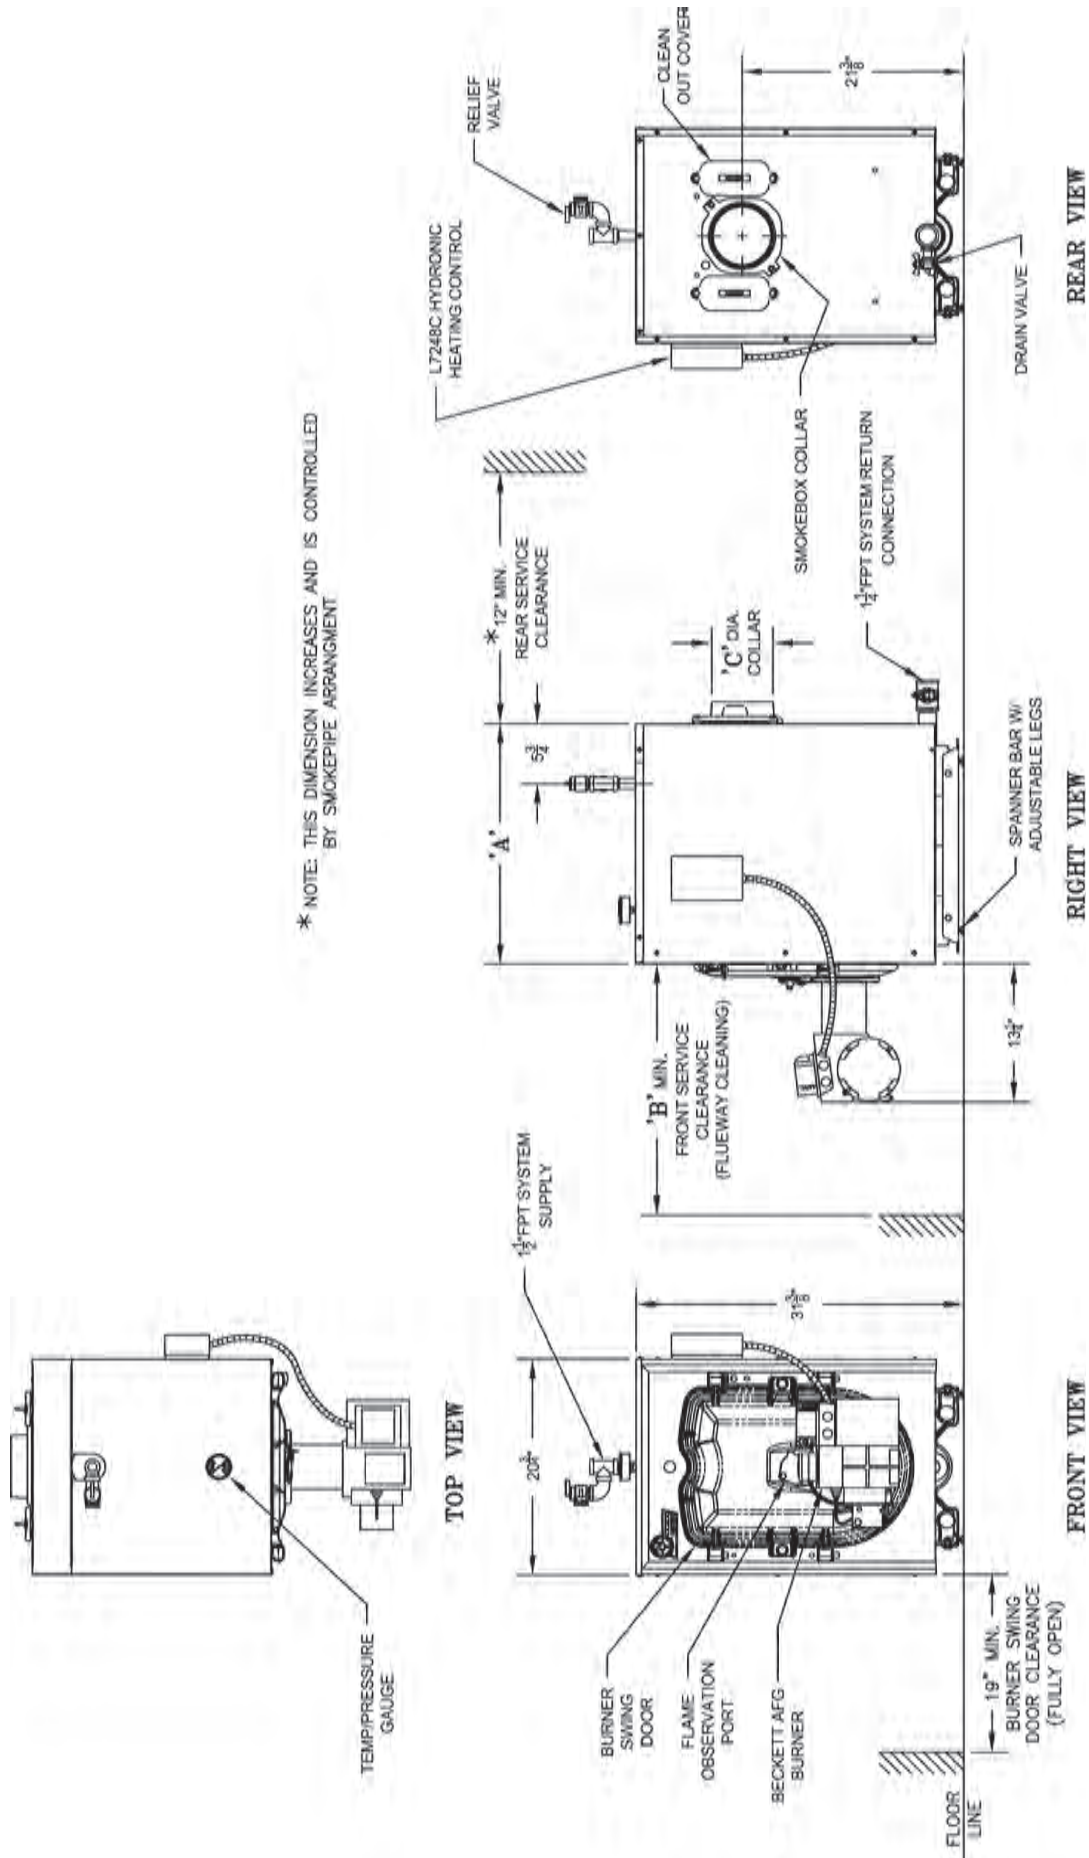

Figure 1: CI-HGS™-72 thru CI-HGS™-163
TABLE 1A: DIMENSIONAL DATA (SEE FIGURE 1)
2. Any claims for damage or shortage in shipment must be filed immediately against the carrier by the consignee. No claims for variances from, or shortage in orders, will be allowed by the manufacturer unless presented within sixty (60) days after receipt of goods.
B. LOCATE BOILER in front of final position before removing crate. See Figure 1.